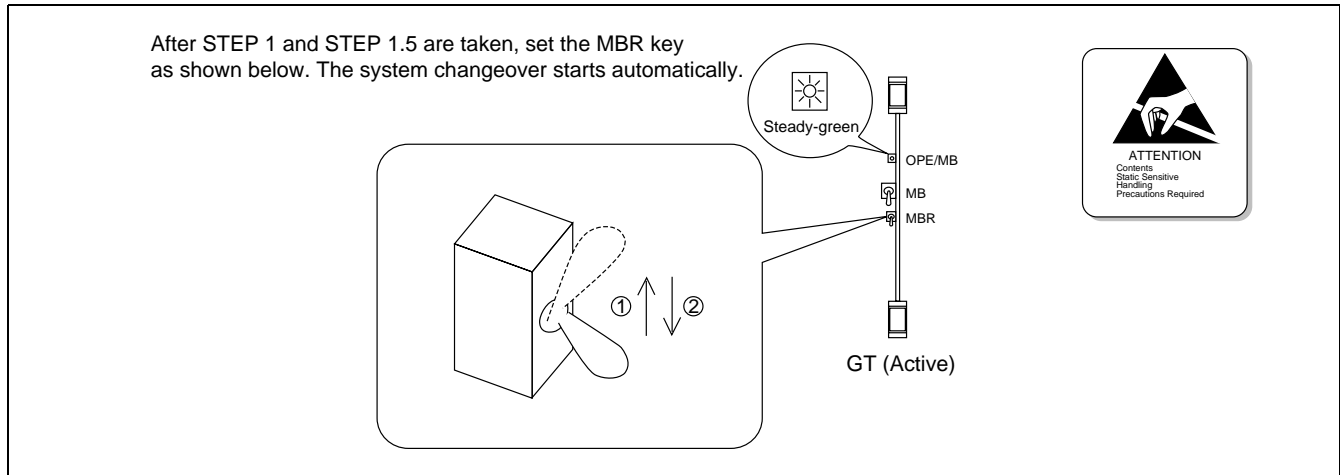

Figure 6-51 Speech Path System Changeover via Active GT MBR Key
STEP 2 Flip the MBR key on the active GT card. Refer to Figure 6-51.